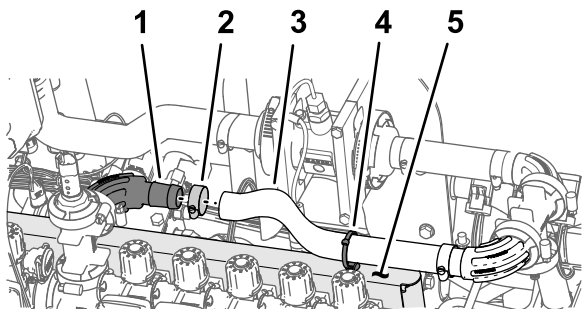

Figure 110
- Assemble the hose (1 x 16 inches) over the 90° flange fitting (1 inch) as shown in Figure 110.
- Secure the hose to the flange fitting with a hose clamp (Figure 110).
- Assemble the cable tie/push-in fastener into the hole at the top of the valve mount as shown in Figure 110.
- Secure the cable tie/push-in fastener (Figure 110) around the hose (1 x 16 inches).